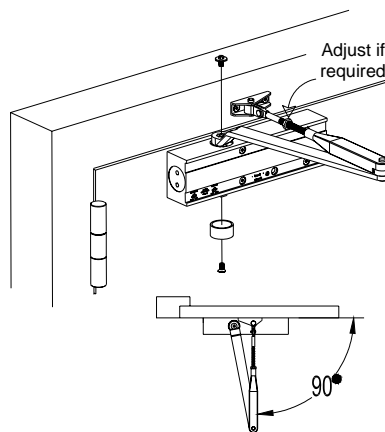

Fig. 5
6. Fit spindle cover cap to underside of closer. (See Fig. 5)